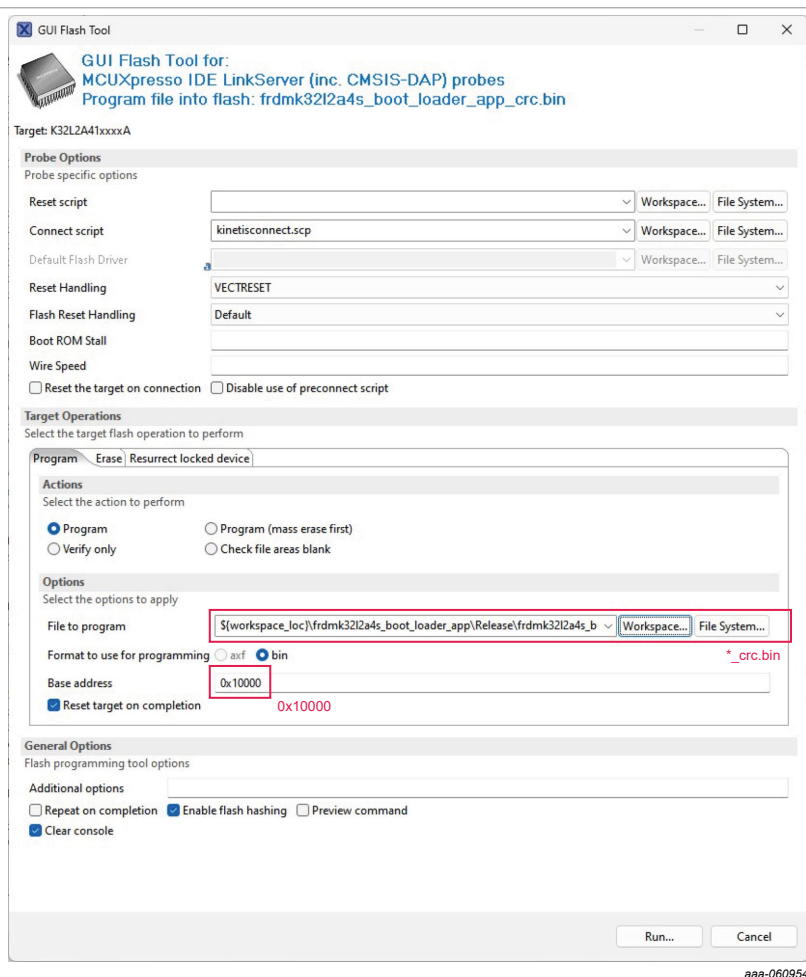

Figure 19. Programming frdmk32l2a4s_boot_loader_app_crc.bin in the internal flash
- a. Program frdmk32l2a4s_boot_loader_app_crc.bin in the internal flash by GUI Flash Tool as shown in Figure 19.